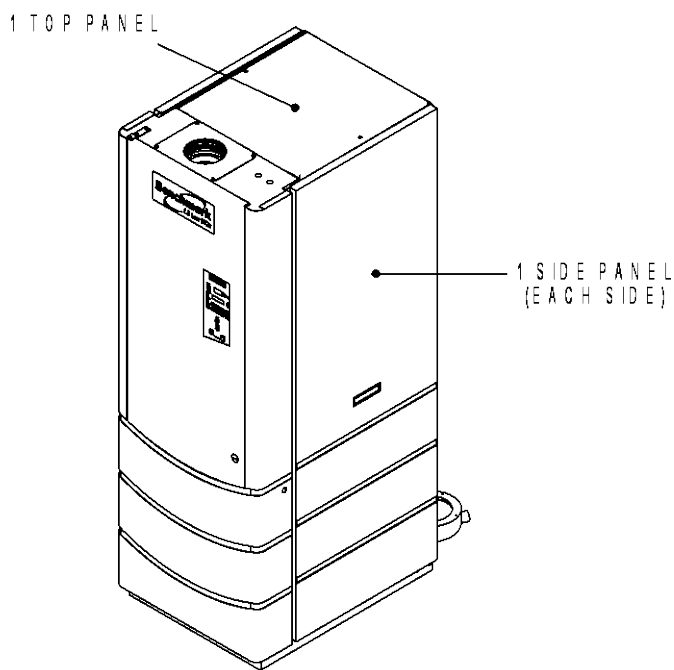

Figure 1. Benchmark 1.5 Low NOx (LN) Boiler
5. Refer to Figure 1 and remove the top and side panels of the unit.